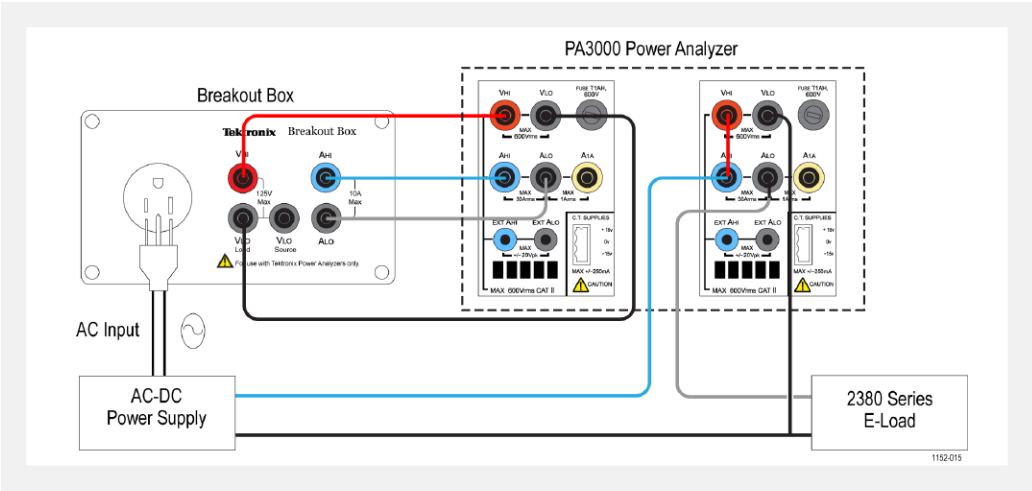

Figure 1-2. AC-DC efficiency measurement wiring diagram.
1. Connect the AC input on the device under test (DUT) to the first channel of the PA3000 using a Tektronix Breakout Box (BB1000) as shown in the wiring diagram. (See Figure 1-2.)